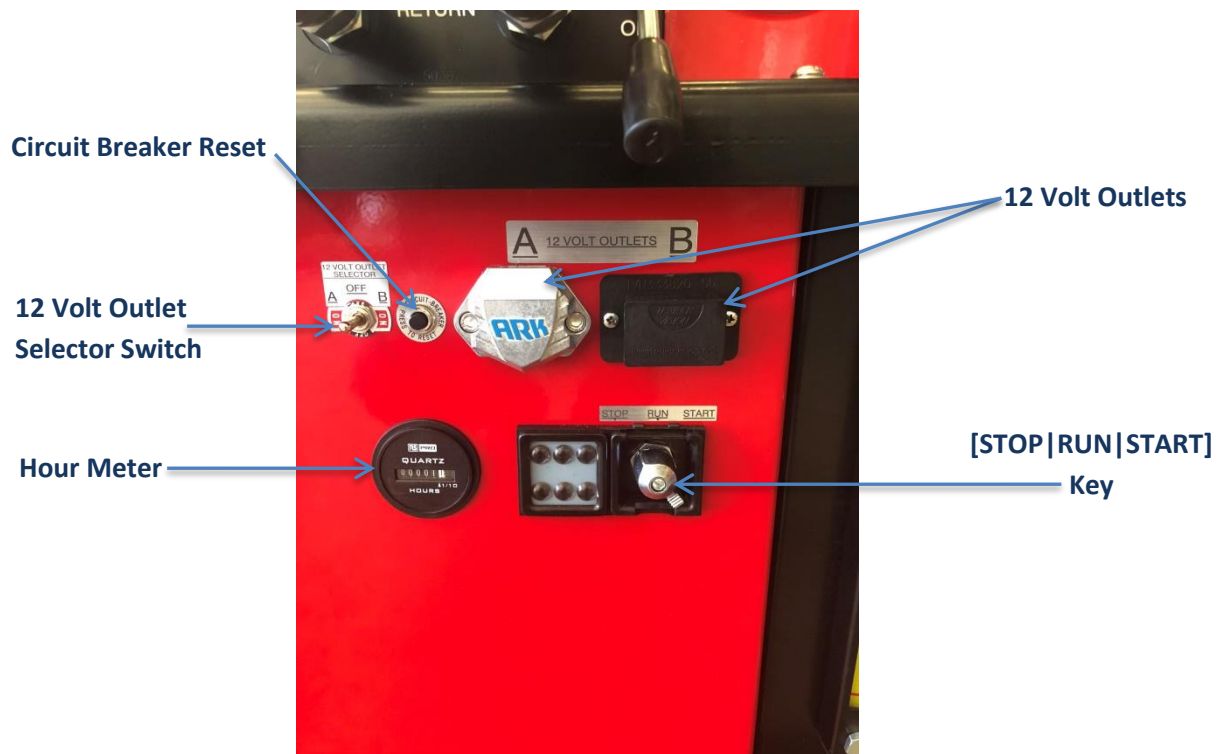

Figure 2 –Engine Controls
- 5.3.1 Turn the key to RUN position – see Figure 2 (below). Fuel and oil lights will be illuminated.
- 5.4.2 Turn the key to OFF position (Figure 2).